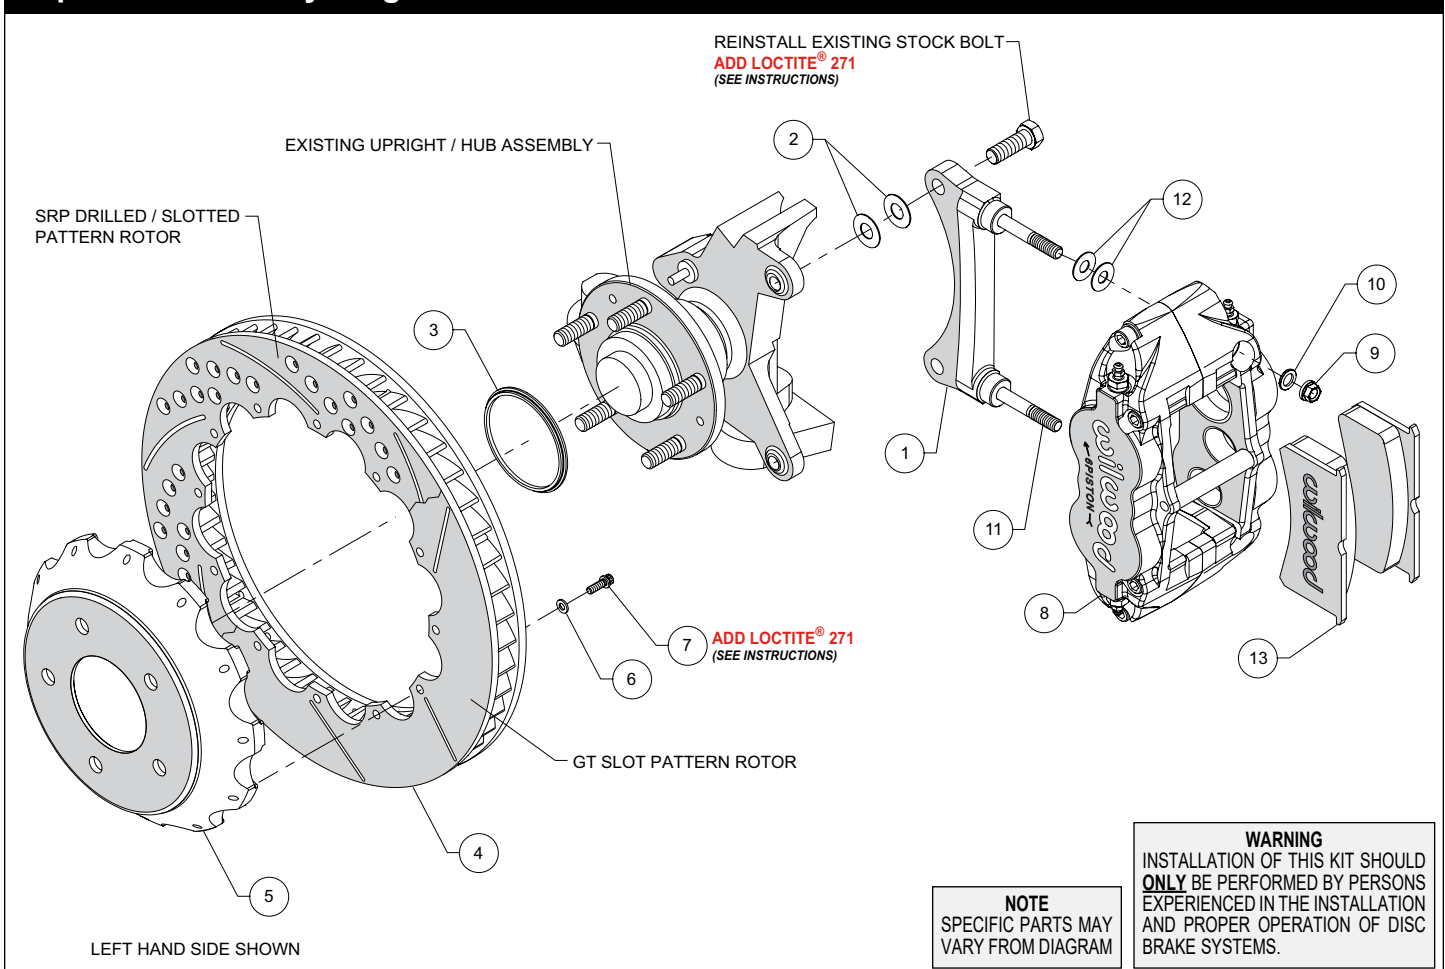
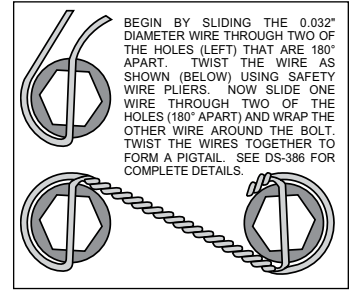

Figure 1. Typical Installation Configuration
Figure 3. Safety Wire Diagram
NOTE: Numbers in parenthesis refer to the parts list and Figure 1 on the preceding pages.
•The caliper mount bracket (1) should initially be installed with clean, dry threads on the mounting bolts. Orient the bracket as shown in Figure 1, and install using saved Original Equipment Manufacturers (OEM) mounting bolts and shim washers (2). Initially place two shims (2) on each bolt between the bracket and upright, Figure 1. Temporarily tighten the mounting bolts.
•Orient the rotor (4) and the hat (5) as shown in Figure 1 and Photo 1. Attach rotor to hat using bolts (7) and washers (6). Apply red *Loctite*® 271 to the bolt threads and torque to 155 in-lb using a criss-cross pattern. For an added measure of security, the bolts may be safety wired using standard 0.032 inch diameter stainless steel safety wire as shown in Figure 3. Please refer to Wilwood's data sheet DS-386 (available at www.wilwood.com/Pdf/DataSheets/ds386.pdf) for complete safety wire installation instructions.
•Slide the rotor registration adapter (3) onto the axle register on the axle hub with the smaller O.D. facing outward, Photo 2. Slide the hat/rotor assembly onto the axle hub. **NOTE:** The hat must fit flush against the axle hub flange or excessive rotor run out may result. Install three lug nuts (finger tight) to keep the hat/rotor assembly in place while continuing with the installation.
•**NOTE:** This kit contains distinct right and left hand calipers that must be mounted in a specific direction, as described below. Initially place two .035" thick shims (12) on each stud (11) as shown in Figure 1 and Photo 3. With the bleed screws pointing up, mount the caliper (8) onto the bracket (1) using lock nuts (9) and washers (10), Figure 1 and Photo 4. Ensure that the caliper is mounted so that the largest pistons are at the rotor exit end of the caliper, in relation to the direction of rotor rotation. Temporarily tighten the lock nuts and view the rotor through the top opening of the caliper. The rotor should be centered in the caliper, Photo 5. If not, adjust by adding or subtracting shims (2) between the bracket and the upright. Always use the same amount of shims on each of the two mounting bolts. Once the caliper alignment is correct, remove the bracket mounting bolts one at a time, apply red *Loctite*® 271 to the threads, and torque to manufacturer's specifications.
•Remove the caliper center bridge pad retainer bolt, nut, and tube from the caliper. Insert the brake pads (13) into the caliper (8), with the friction material facing the rotor, as shown in Photo 6. Check that the top of the brake pad is flush with the outside diameter of the rotor, Photo 7. If not, adjust by adding or subtracting shims (12) between the caliper and the bracket. After the caliper pad height is set, reinstall the center bridge pad retainer tube, bolt,